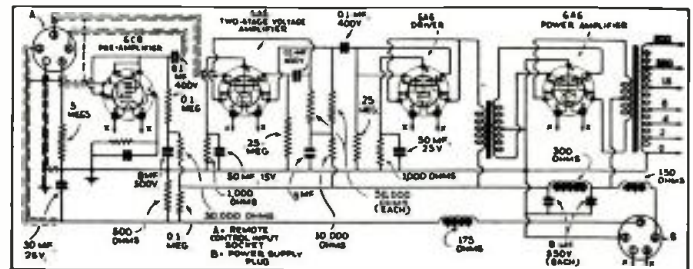

Fig. 2—the circuit of the auto P.A. amplifier.
1. *Adequate Power Output* should be the cardinal consideration in the selection of an amplifier. (The schematic diagram, Fig. 2, shows the amplifier, described below, which can be used to cover between 4,000 and 6,000 square feet outdoors or be used indoors for 3,000 to 4,000 people.)
4. *Economy of operation.* Minimum operating power consumption and low maintenance costs should be a predominating characteristic of every automotive P.A. System. Correctly designed class B circuits (Fig. 2) are the logical solution for the production of high power outputs with low operating power consumption. (All four tubes of the unit